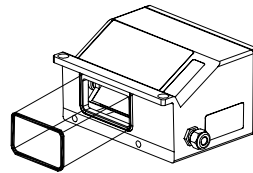

Figure 3
- 3) Press the sealing gasket into the seat on the OM4000 body. See Figure 3.